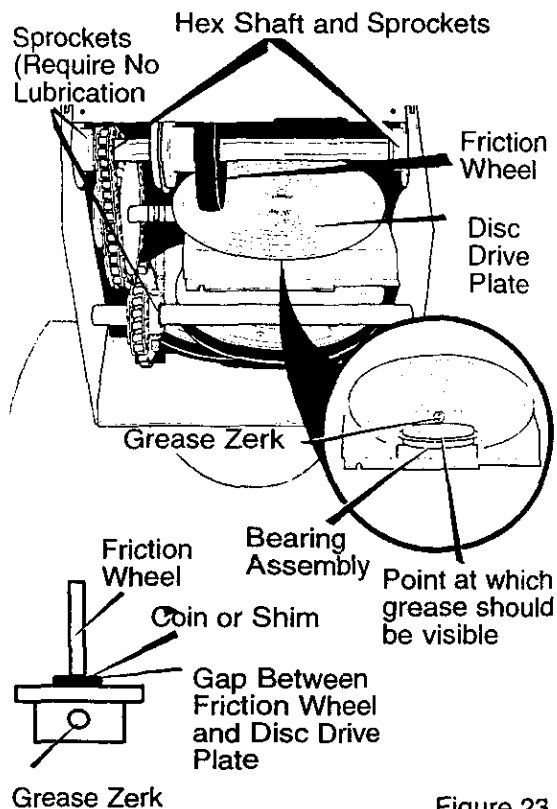

Figure 23
4. Turn **disc drive plate** clockwise by hand until **grease zerk** is clearly visible at front center. See Figure 23.
1. **Hex Shaft and Sprockets** – Hex shaft and sprockets require no lubrication. All bearings and bushings are lifetime lubricated and require no maintenance. See Figure 23.